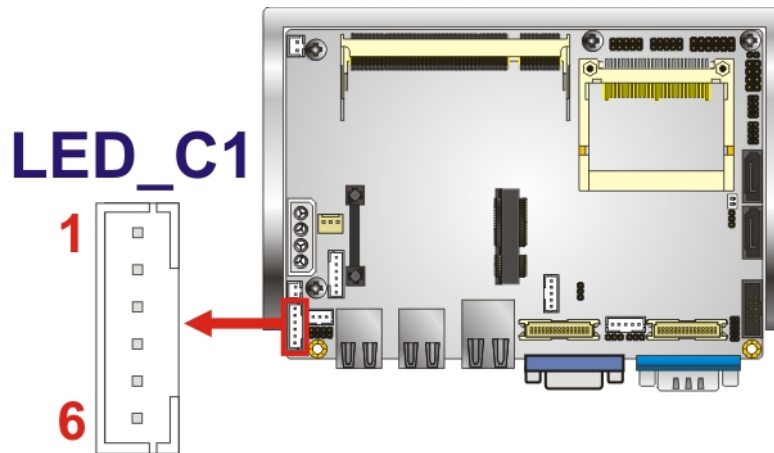

Figure 3-10: LED Connector Locations
- CN Location:** See Figure 3-10